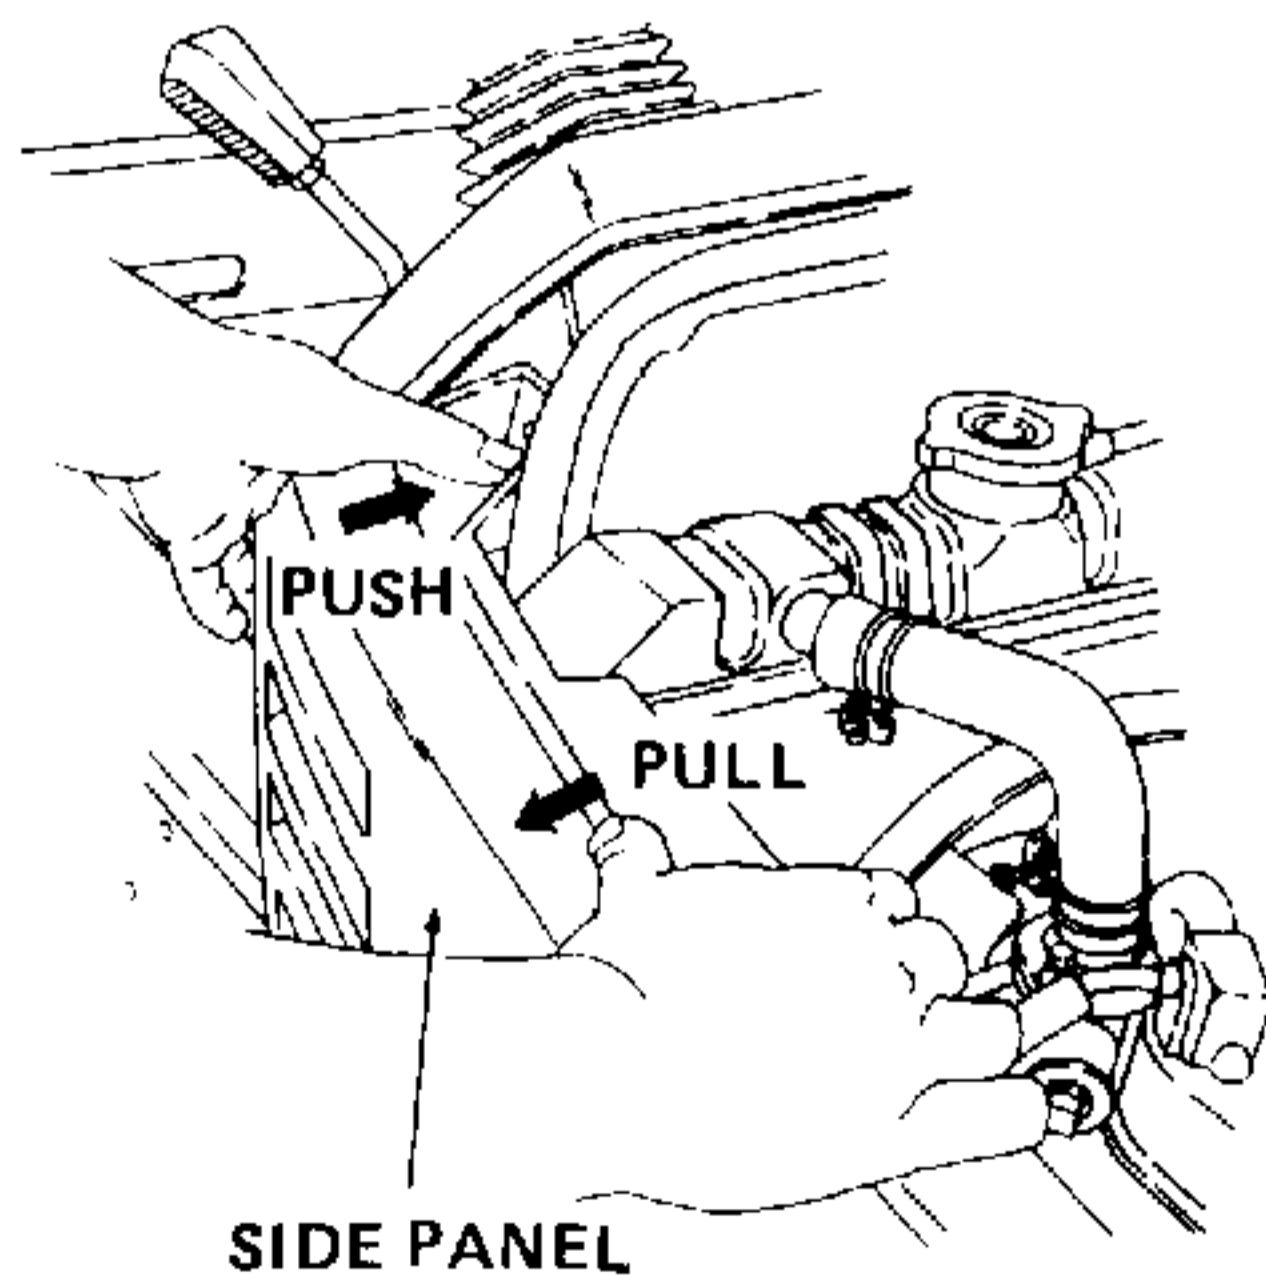

Figure 5-7. Side Panel Mounting Hole Positioned on Stud.
- b. Grasp top center of panel as shown in Figure 5-7 and gently pull toward you in order to position mounting hole over stud.